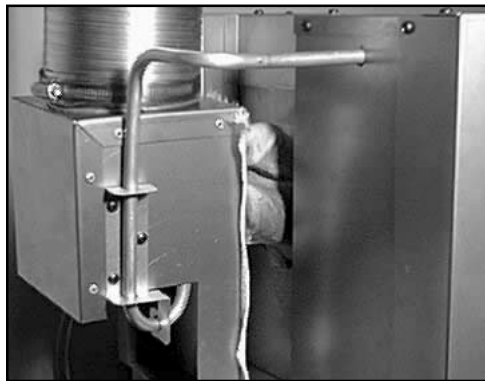

Figure 7
- 2) Place appliance on hearth and slide the appliance into the fireplace. Position the draft tube in the hold located on the back. Reach through the exhaust hole and grab the draft hood. See Figure 7. Continue to slide appliance back until draft hood is in position. Reinstall four screws around the exhaust hole.